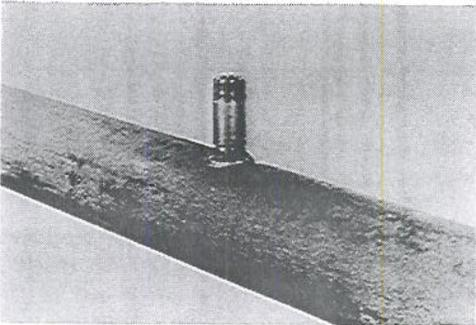

FIGURE 35
- 3a. For nipples having welding inlet. Place nipple in desired location and weld to pipe line. **Figure 35**.